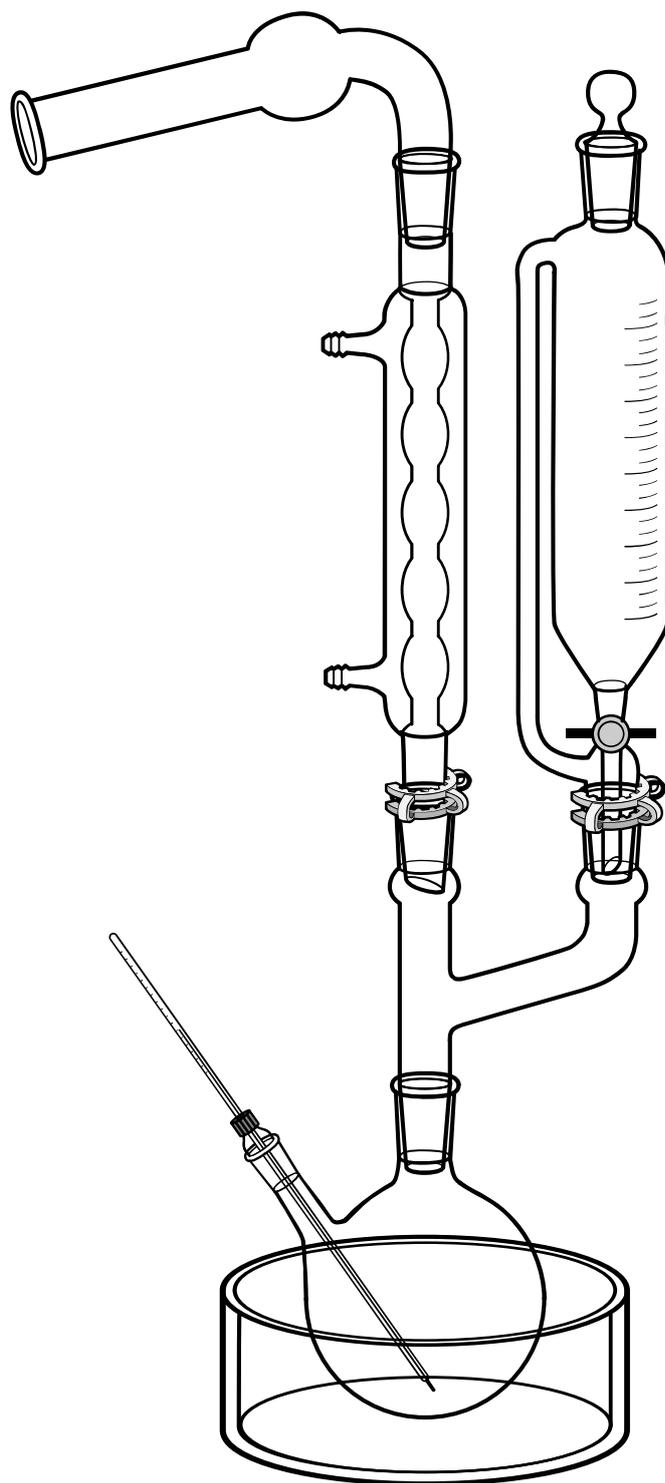

Figure 1
- Assemble a reflux apparatus by placing an Allihn condenser and an addition funnel on the top of a dry, clean 250 mL two-neck round-bottom flask fitted with a Claisen adapter. Put a drying tube packed with anhydrous  $\text{CaCl}_2$  on the top of the condenser. Use a thermometer with an adapter to be able to check the temperature of the solution in the round-bottom flask. Place a magnetic stirrer and a lab jack under the flask, making sure that a heating or cooling bath can be applied if necessary. Connect the condenser to the tap and set a constant flow of water through the condenser. (Figure 1)